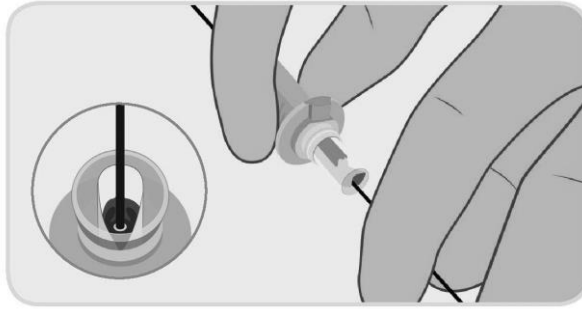

Figure 7. Loading guidewire into device cannula.
- a. Use non-heparinised saline to lubricate the guidewire during insertion. Insert the guidewire into the implant within the loading cannula, Figure 7 continue to insert the guidewire until it emerges from the rear of the PerQseal® closure device handle. Hold the PerQseal® Introducer-sheath at a low angle relative to the longitudinal axis of the artery (e.g. 20°) and keep the Introducer-sheath as straight as practical, to avoid kinking.
*Note 2: Only grip the back portion of the Loading cannula during insertion as indicated in Figure 7.*